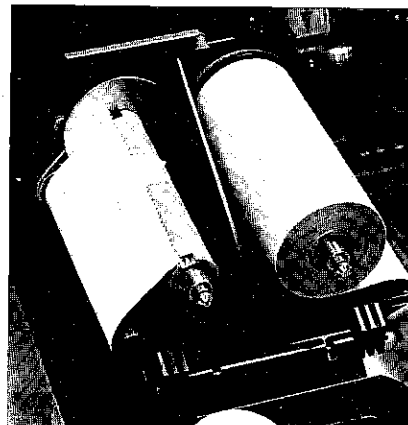

FIGURE 31
8. Draw the end of the paper across the face of the platen, around the friction roller, over the take-up core, and tape it squarely to the take-up core. (See Figure 31). Small pieces